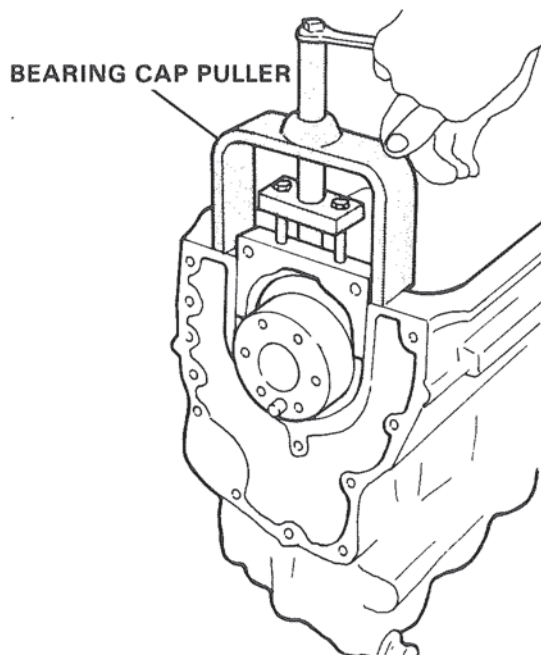

Figure 20. Removing Front Bearing Cap.
A. Remove front and rear bearing caps. Use cap puller Special Tool No. MH061083. Figure 20.